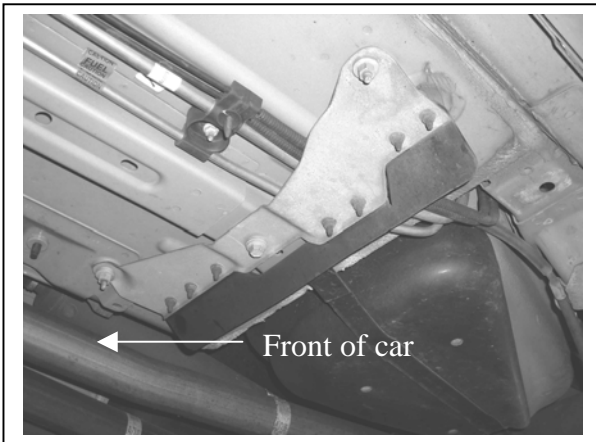

Fig 1. Fuel tank stone guard must be removed on both sides of car. Each will be reused.
3. Remove the left and right, fuel tank stone guards. Safeguard the hardware. See Fig 1